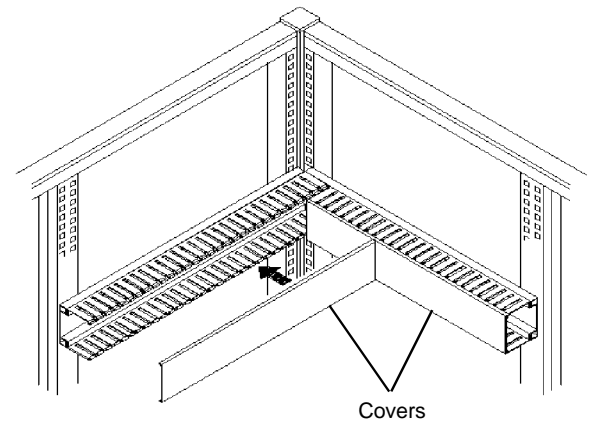

Figure 3
3. Install all covers. See **Figure 3**.